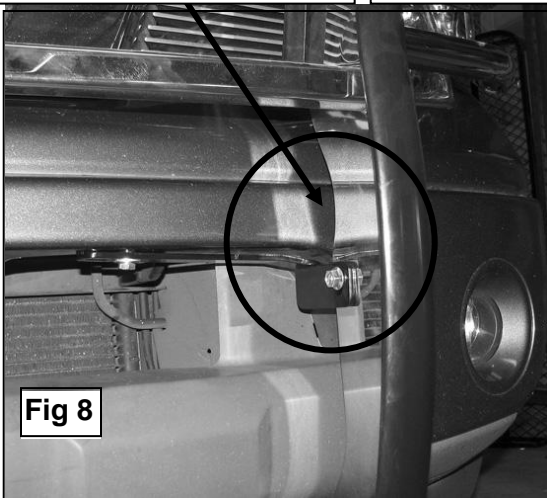

Fig 8
8. Push the Grille Guard back into position and line up the holes in the Top Brackets with the holes in the Grille Guard uprights. **NOTE:** It may be necessary to move the Top Bracket in or outward in the slots to line up properly with the Grille Guard. Attach the Top Brackets to the inside of the Grille Guard uprights using the included (2) 10mm Button Head Allen Bolts, (4) 10mm Flat Washers and (2) 10mm Nylon Lock Nuts, **(Figure 8)**.